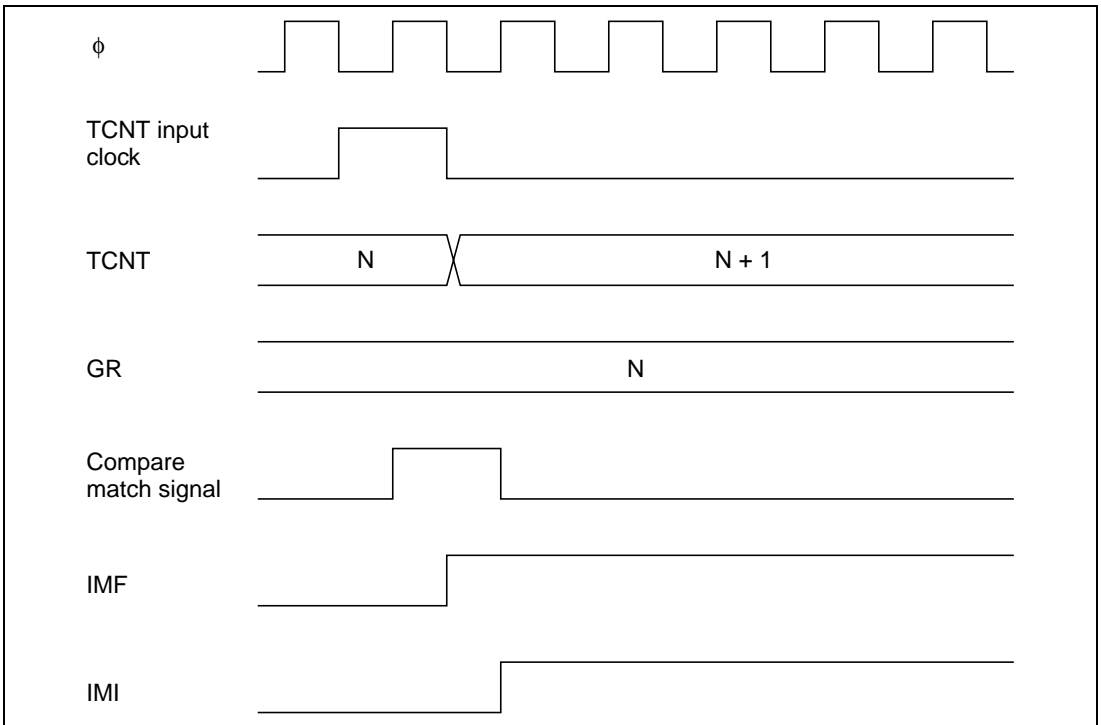

Figure 8.57 Timing of Setting of IMFA and IMFB by Compare Match
IMFA and IMFB are set to 1 by a compare match signal generated when TCNT matches a general register (GR). The compare match signal is generated in the last state in which the values match (when TCNT is updated from the matching count to the next count). Therefore, when TCNT matches a general register, the compare match signal is not generated until the next timer clock input. Figure 8.57 shows the timing of the setting of IMFA and IMFB.